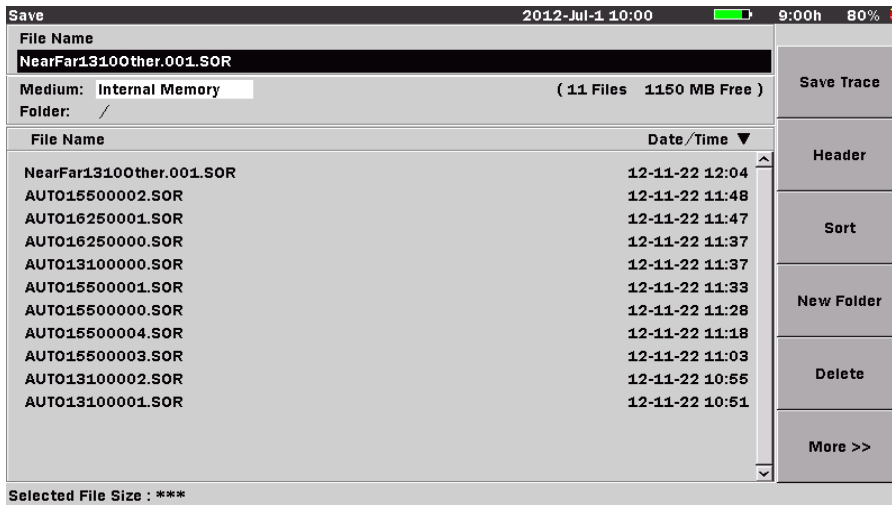

Figure 6-26: Save screen
12. If **File Save Verify** is selected on the OTDR (Construction) Setup screen (see Figure 6-24 on page 6-61) the Save screen appears (see Figure 6-26 on page 6-64). Review the file name and edit if desired, then press **Save Trace (f1)**. The Save screen closes and Construction mode advances to the next test.
Use the Save screen (see Figure 6-26 on page 6-64) to delete any data files stored in the internal memory or on a USB memory stick. You can delete a single file, multiple files or all of the files in the current directory.
1. At the completion of a Construction mode test, the Save screen appears (see Figure 6-26 on page 6-64).